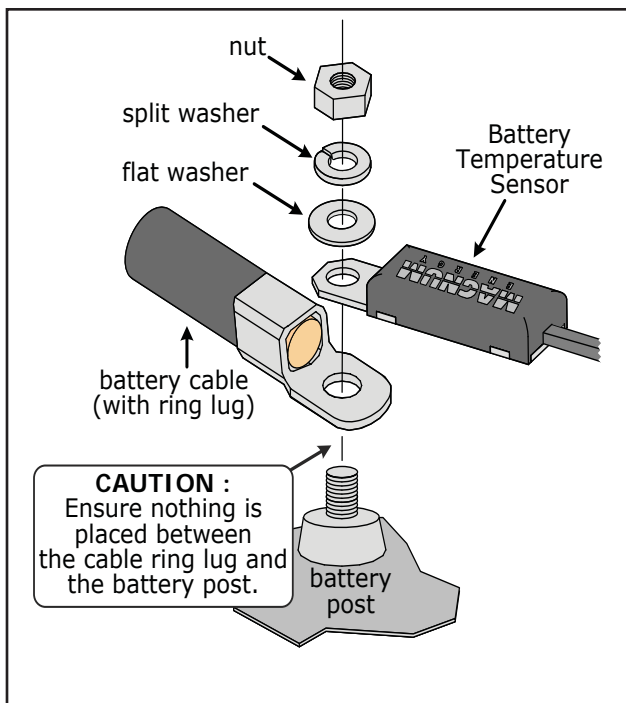

Figure 2-5, Battery Hardware Installation
Refer to Figures 2-5 and 2-6 to connect the DC cables and to stack the hardware correctly. Tighten the terminal connections from 13.6 to 16.3 N-m (10 to 12 ft lbf).
1. Attach the ring terminal end of the battery temperature sensor to the negative battery terminal; see Figure 2-5 for proper connection to the battery terminal.
3. Ensure the DC wire connections (on the batteries, inverter, and DC circuit breaker/fuse lugs) are flush on the surface of the DC terminals, and the hardware (lock washer and nut) used to hold these connections are stacked correctly (Figures 2-5 and 2-6).